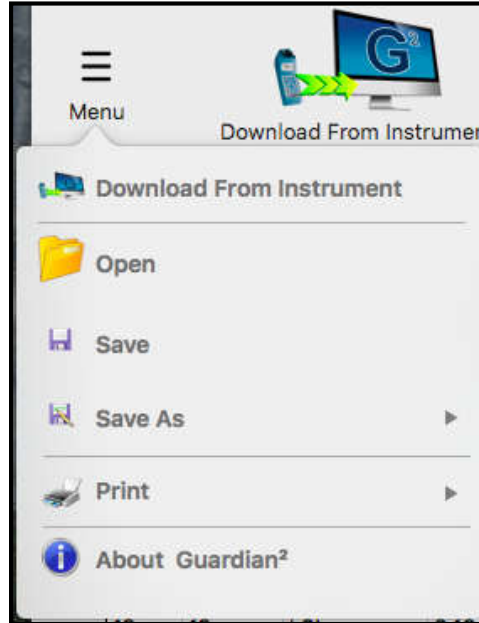

Figure 36
- Select the "**Save**" or "**Save As**" command under active Data Window's Menu Window (Figure 36).